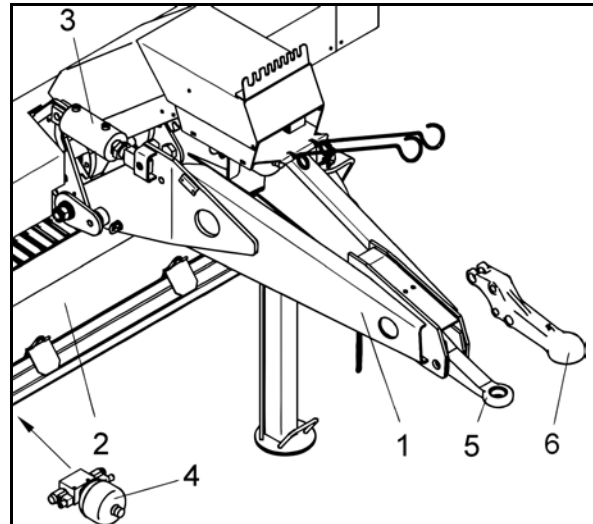
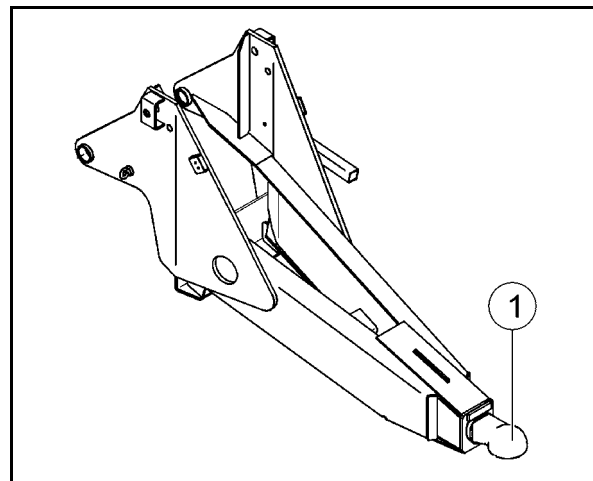

Fig. 47
Fig. 48
Depending on the design of the tractor's coupling device, the folding drawbar can be coupled to the tractor by means of a top hitch (Fig. 47) or a bottom hitch (Fig. 48).
- a drawbar lug 40 (Fig. 47/5) according to DIN 11043 for a bolt-type coupling according to DIN 11028 / ISO 6489-2,
- a shell 80 (Fig. 47/6) or (Fig. 48/1) for a ball-type coupling 80.